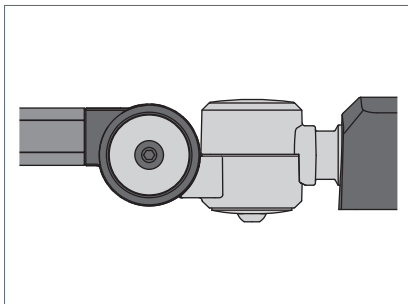

Fig. 4: Pivot and pivot screw.
- ▶ Tighten each pivot screw until the luminaire is fixed in the desired position, see Fig. 4